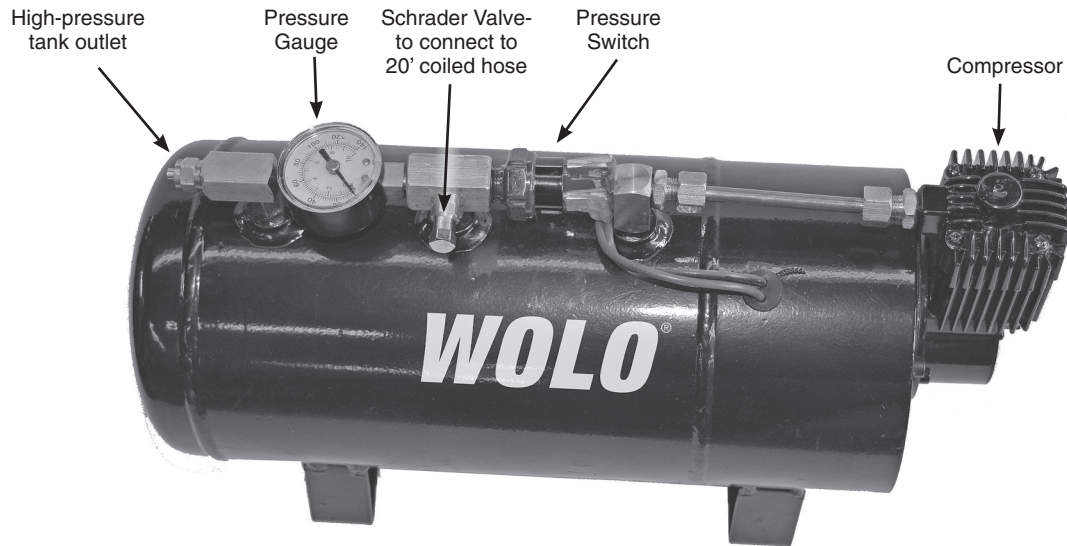

Fig. 1
TANK INSTALLATION Fig. 1
1. Use the tank's mounting bracket as a template; mark the hole locations and drill to size 15/64". Secure tank with hardware provided. Fig. 1.